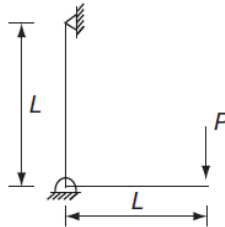

Figure 39 Question 51.
51. A frame of two arms of equal length L is shown in Figure 39. The flexural rigidity of each arm of the frame is EI . The vertical deflection at the point of application of load P is: